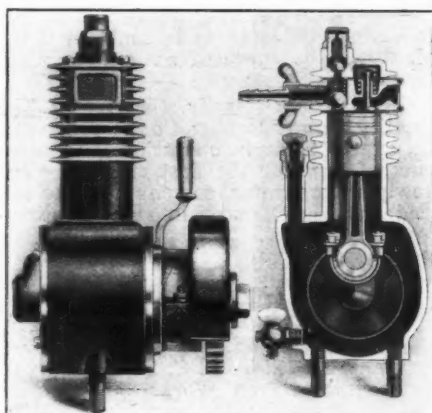

Fig. 1—Side elevation of one-cylinder Aero pump and section through pump cylinder
**A**ERO Power Tire Pump—The Advance Machinery Company, Toledo, O., has just placed on the market the new Aero pump, a motor-driven pump, Figs. 1 and 2, in one, two and three cylinder models, designed both for regular and special equipment on new cars or for installation on motor cars already in service. This new pump conforms to the standard magneto dimensions adopted by the Society of Automobile Engineers. This means quick and easy installation on practically any car.